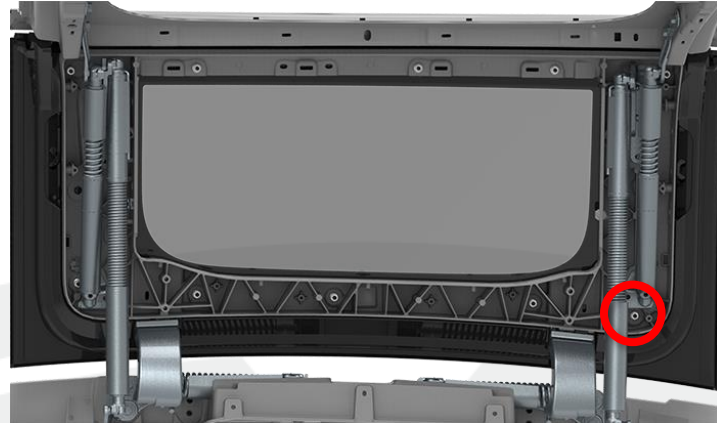

Figure 6
15. Lift the lower rear corner of the upper glass while torquing the lower rearward nut (torque 6 Nm) (Figure 6).